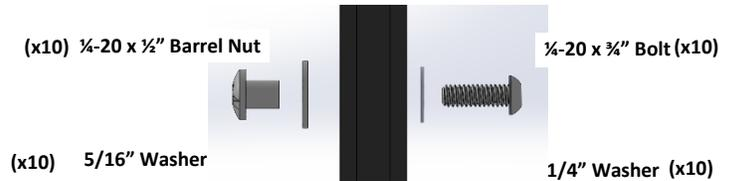

Figure 4: Light bar assembly from 3 individual pieces.
4. Disconnect and remove the front radar sensor from the stock location. Reference Figure 4 for location.
6. Assemble your Light Bar from the 3 individual pieces it was sent in, reference Figure 4.